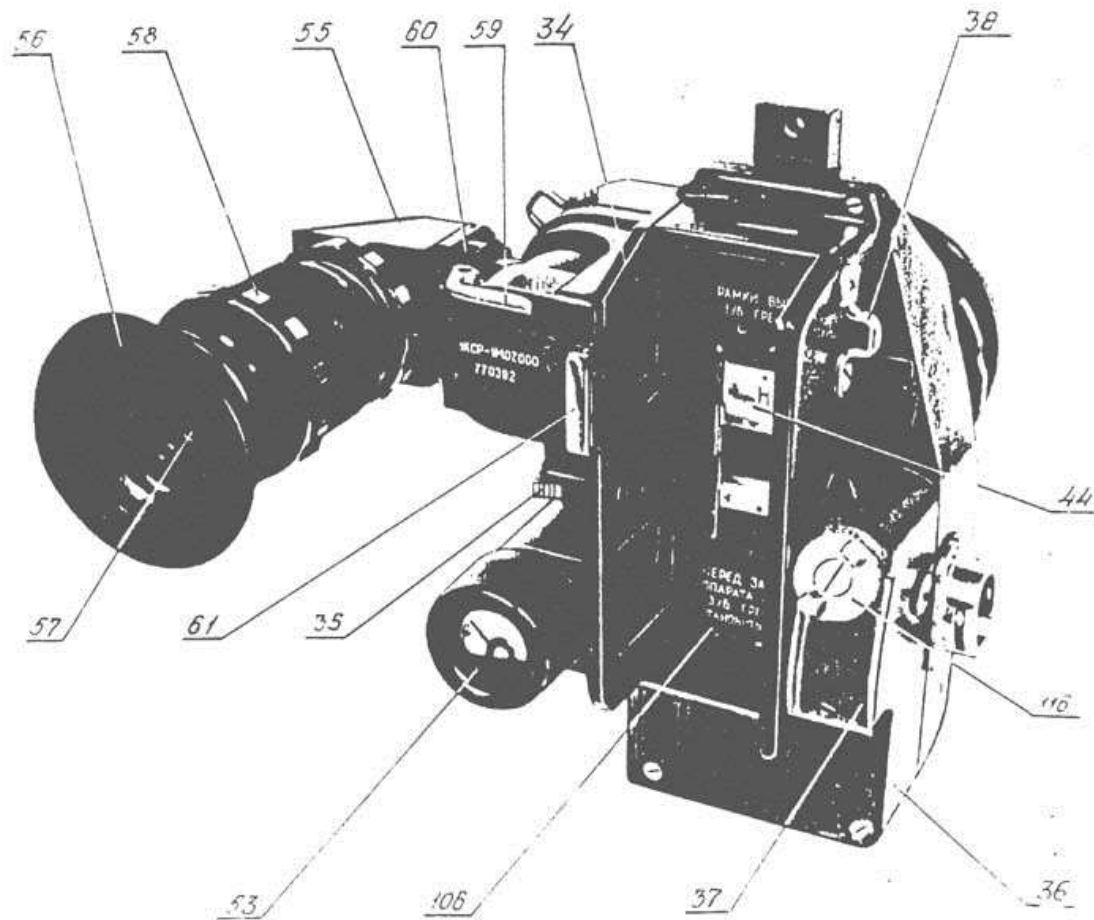
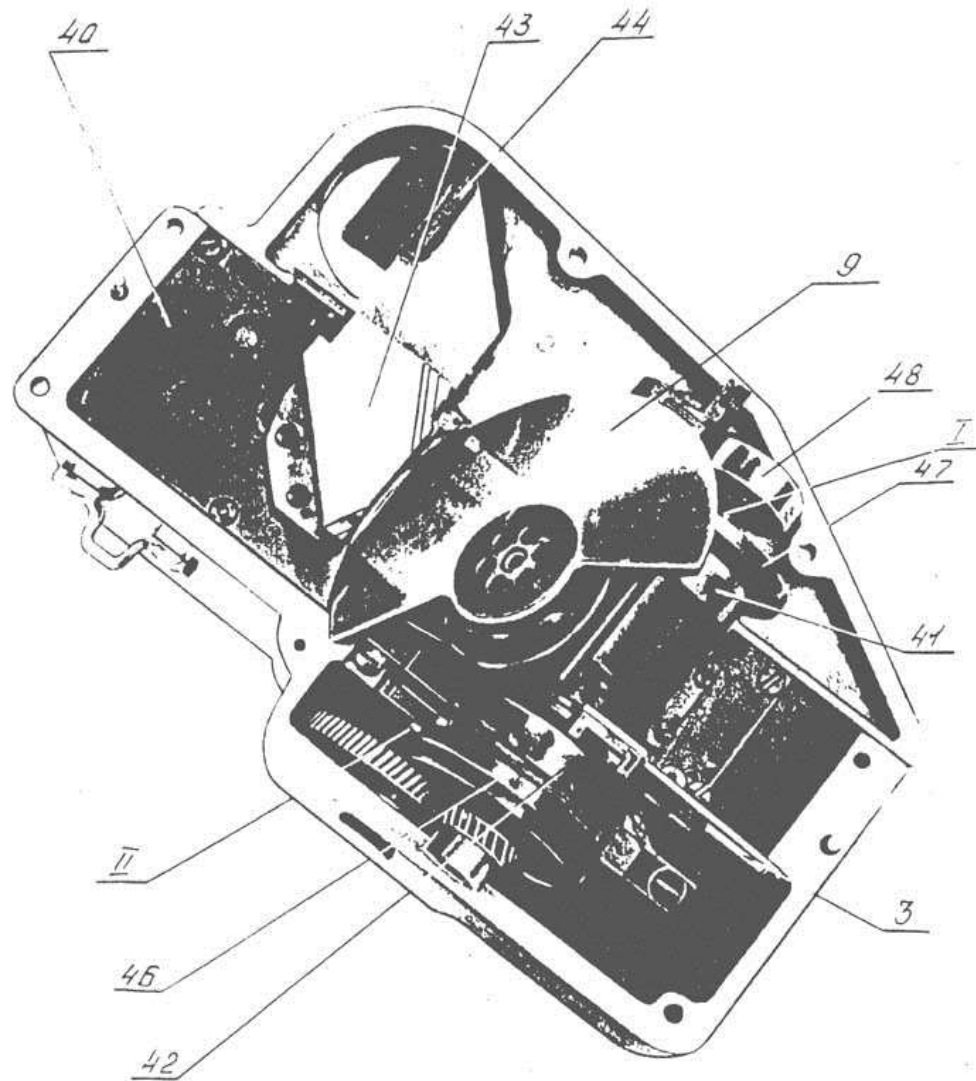

Figure 7
Figure 8
The body of the mechanism (figure 7) consists of two basic parts: the left wall (35) in which the lock of the mag (36) is built-in, and the body (37) with transmissions in which are mounted: a countershaft (II) (figure 8), parts (38) (see fig. 7) of the electric drive mounting, and bracket (39) for a carrying belt.
Claw-shutter the mechanism (figures 7,8) is single-tooth, single-side, of the right arrangement.
Claw-shutter mechanism is assembled into single unit consisting of the plate (40) (figure 8), carrying all construction of the claw-shutter mechanism; the shaft (I) of the claw mechanism rotating in the slide bearings (41) and (42); the forked claw teeth, the shutter, the prism with prism holder (43), mirrors with mirror holder (44), film gate (45) (figure 7).
In order to maintain smoothness of claw-shutter movement, there are flywheels (46) and (47) (figure 8) on the both ends of the claw mechanism shaft.
The tachometer (34) is installed into hole in the left part of the camera (figure 7). It is used to visual inspection of shooting frequency.
Usual focusing magnifier (figure 7) gives the erect image of subject without parallax mistakes. It has eye-piece head with an eye shade (56), sunshield lock (57) and dioptic adjustment ring (58).